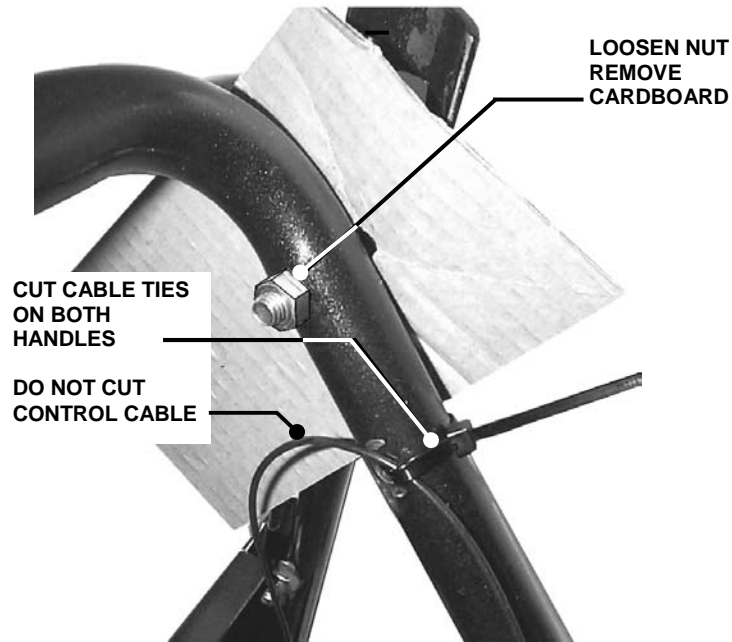
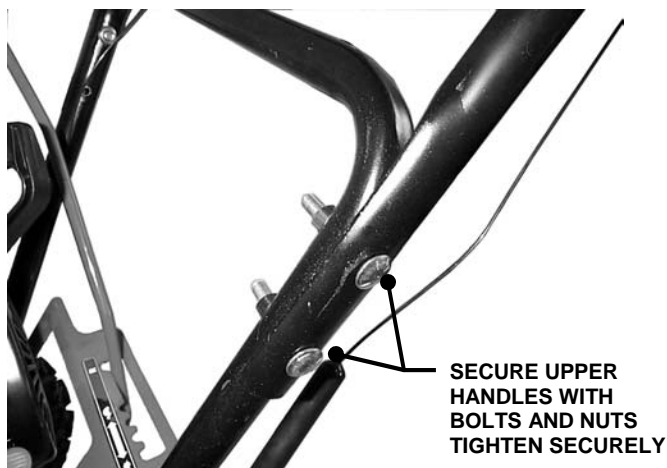

FIGURE 1
FIGURE 2
**STEP 1: HANDLES:** Cut both wire ties that secure the control cables to the handles. Be very careful and **DO NOT** cut the control cables. See Figure 1.
**STEP 2: HANDLES:** Loosen handle nuts and rotate handles up to the operating position. Remove shipping cardboard from in between handles. See Figure 1. Insert bolts through both upper & lower handles and secure with nuts. Make sure the square necks of the bolts are recessed into the square holes of upper handles. Tighten nuts securely. See Figure 2.